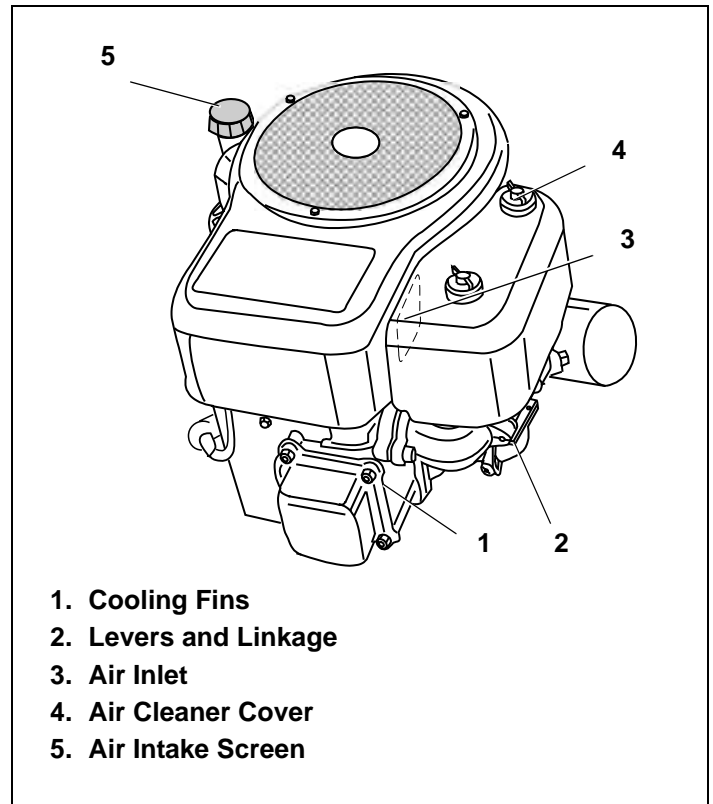

Figure 21. Debris Locations
Removing debris will insure adequate cooling, correct engine speed and reduce the risk of fire. See Figure 21.
*Before removing air cleaner cover, see "III. Filter Removal/Installation" instructions on page 12. Special care should be taken to prevent damage when removing air cleaner cover. See Figure 21. Afterward, continue reading instructions below.*
1. Remove air cleaner cover and filters. See Figure 21